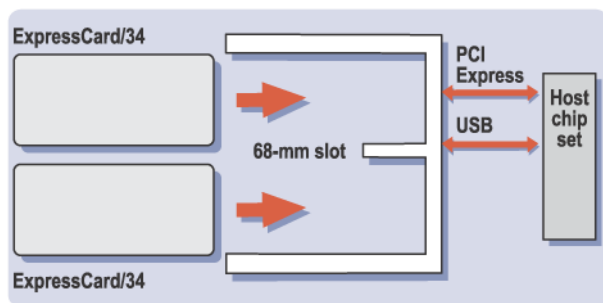

Figure 4. 68-mm ExpressCard Slot With Two ExpressCard/34 Modules
- **One 68-mm slot** — The third slot size is a dual 34-mm slot in which two 34-mm slots are installed side-by-side. As shown in Figures 4 and 5, the resulting 68-mm slot can accommodate one ExpressCard/54 module or two ExpressCard/34 modules.